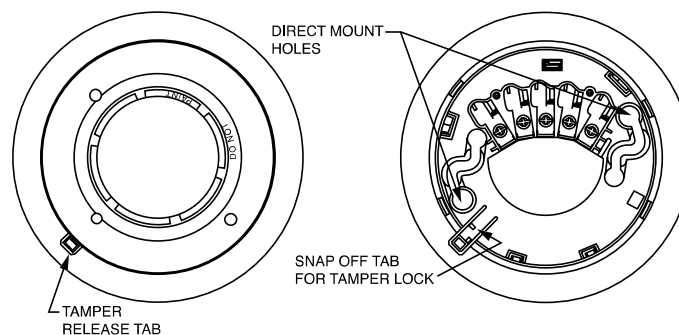

Figure 1: Tamper-Resistant Feature/Wiring
- **Easy Installation:** Installation is simplified by the use of a mounting base that may be pre-wired to the system, allowing the detector to be easily installed or removed for maintenance or service. (See Figure 1).
- **Versatile Mounting:** Mounting is made simple with the included hardware and the large mounting ports, which accommodate drywall anchors for easy surface mounting. (See Figure 1).
- **Tamper Protection and Tamper Resistance:** The detector contains a built-in tamper switch that can communicate back to the control panel in the event the detector is removed from its base. For an added level of security, the detector also includes a tamper resistant element that prevents removal from the base without the use of tools. (See Figure 1).